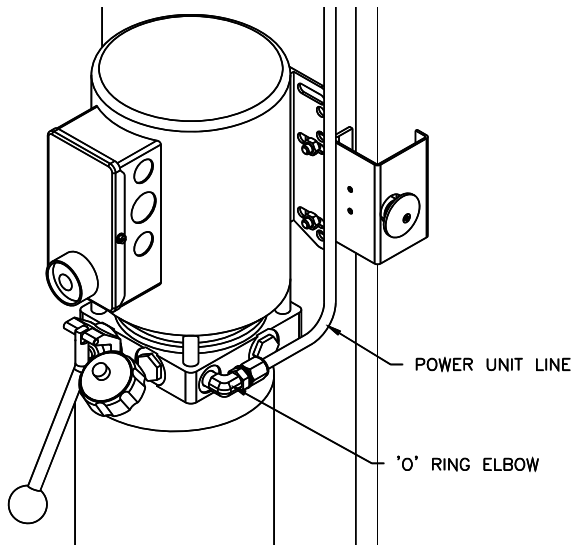

Fig. 12-Power Unit Connection
- 21) Thread 9/16"-18 O-ring elbow (*in hardware box*) into power unit. Attach free end of power unit hose to elbow. See **Fig 12**. **CAUTION** do not damage rubber O-ring.